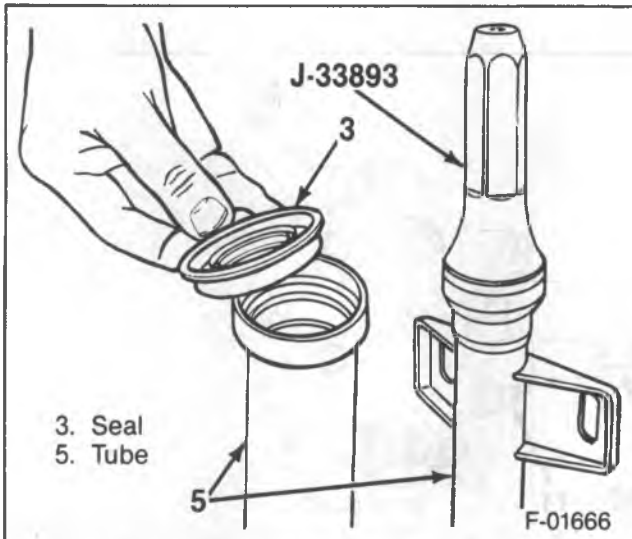

Figure 31—Installing the Shaft Seal
- Shaft (59) with deflector (2). Tap into place.
- Bearing (4). Use J 33844.
- Seal (3). Use J 33893 (figure 31).